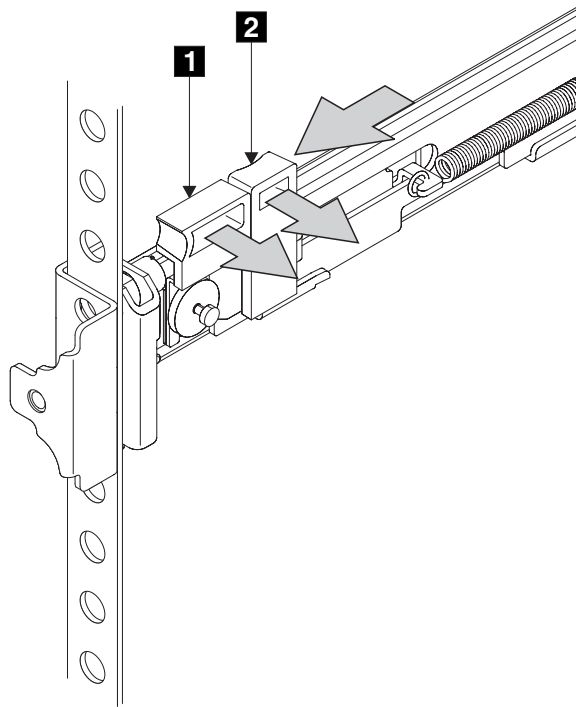

Figure 129. Closing the latch-lock carrier assembly
8. Push the latch lock **2** (Figure 129 on page 459) away from the rail to release the carrier. The latch-lock carrier slides toward the front of the rack and the locating pins project through the holes that are in the front flange and in the front rail bracket.